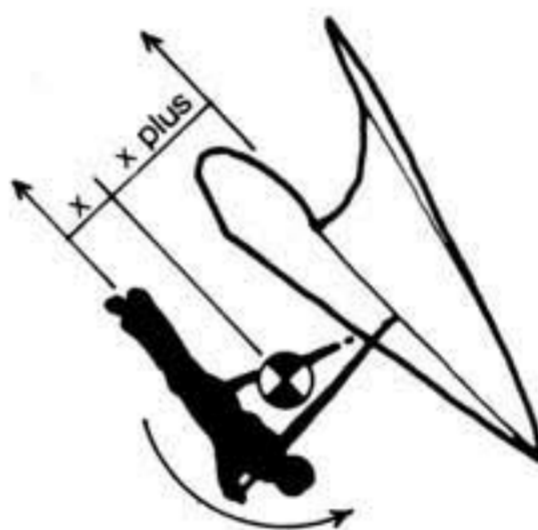

Fig. 14 Drag forces reaction in luff dive.
6.3.3. Sometimes a high speed stabilised dive can occur rather than actual luffing. Fig.9 shows that a luffing sail generates a small but positive pitching moment. Thus in a stable glider luffing should be no problem as the drag and long moment arm should pop the glider inflated quite quickly. See Fig.14. However, if the canopy immediately before the onset of luffing exhibited negative pitching characteristics, a new high speed equilibrium may result whereby the sail is balanced in a sort of half-life between full luff dive and full canopy inflation.